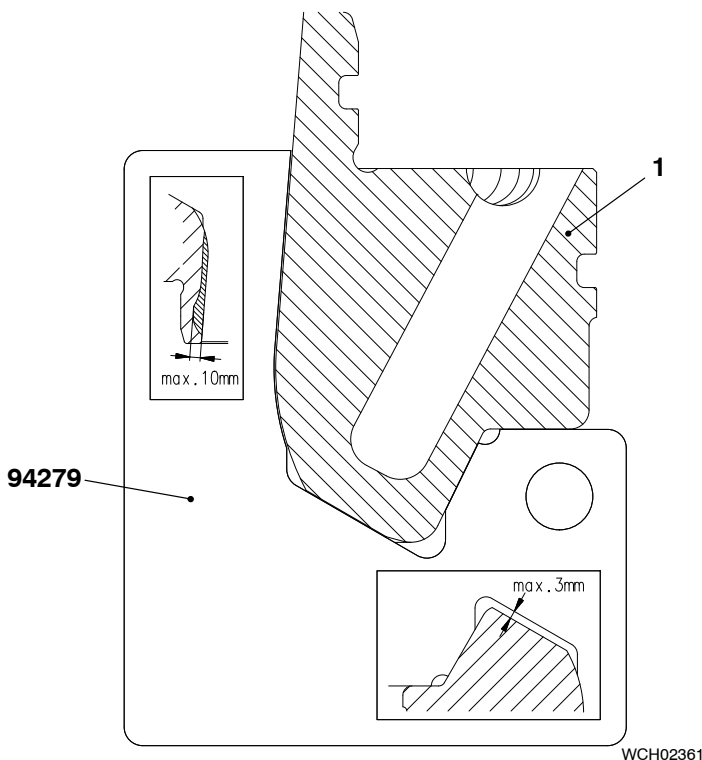

Fig. 4
- 2) Put the valve seat (1) in the correct position on the tool (94291).
- 3) Put the template (94279, Fig. 4) on the valve seat.
**Note: The data on the template (94279) shows the maximum permitted limits for the valve seat (1).**
- 5) If the measured values are more than the limits given on the gauge (94122), you must replace the valve seat (1).
- a) Operate the tool (94291) to grind the sealing face of the valve seat (1). Make sure that you get a smooth and flat surface.